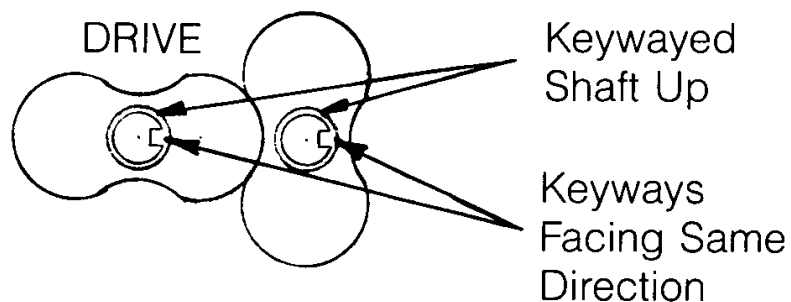

Figure 7
- 3) Stand rotors (1) on arbor press table with gear end shafts up. See Figure 7. Two keyways should point in the same direction, to the right.